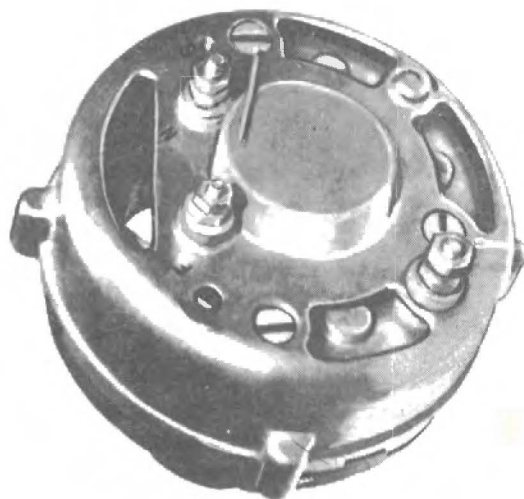

Fig. 16 - Alternator S.R. Head showing wire inserted to restrain brushes during assembly.
(4) Install the brushes and springs in the holders and retain them in position clear of the slip-ring by means of a piece of stiff wire inserted through the hole in the end head provided for this purpose (Fig. 16).
(5) Assemble the rotor and drive end head into the stator to which the slip-ring head is already connected, position lugs and insert and tighten frame screws.
(6) Remove wire allowing brushes to bear on slip-rings and ensure that rotor turns freely by hand.
(7) Install on vehicle and test operation.